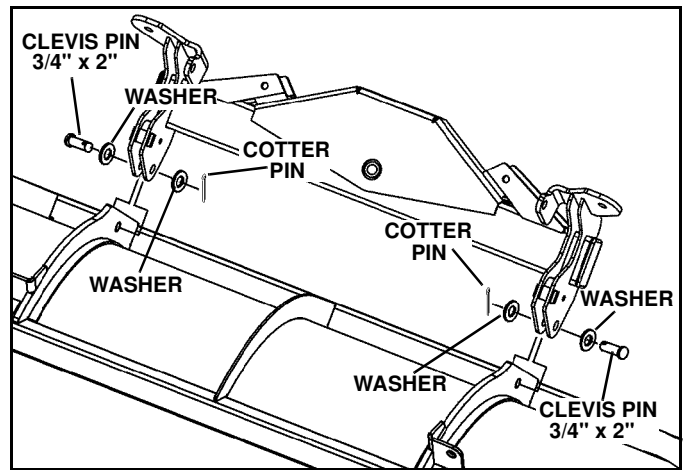

Figure 2-2
4. Install swing frame on blade, aligning the ribs on either side of the center rib between the swing frame lugs. Insert 3/4" x 2" clevis pins and washers from blade parts bag through the mounting holes in the swing frame and blade from the outside, securing at the inside with washers and cotter pins. (See Figure 2-2).